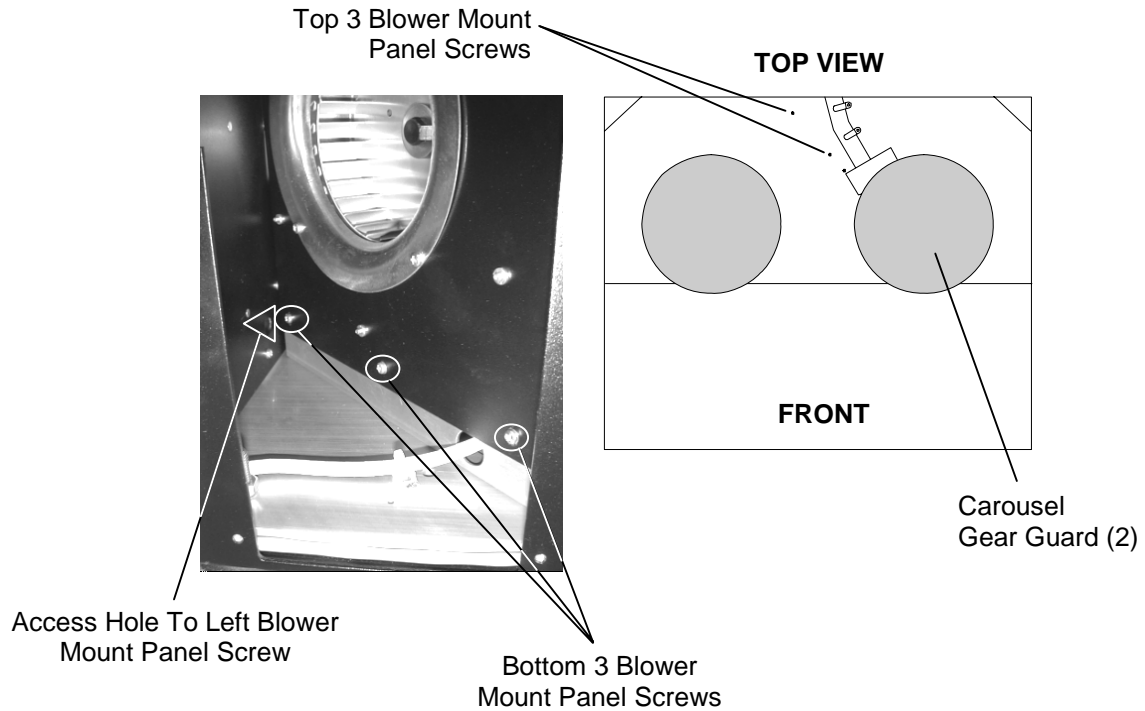

Figure 7-22 Blower Mount Panel Screw Locations
10. Remove the three screws from the bottom of the Blower Mount Panel using Stubby/Short and regular length number 2 Phillips screwdrivers. The screw on the left side can be accessed by reaching into the right side drive access opening and using the screw access hole in the metal wall. See Figure 7-22.
11. Reach into the library through the cabinet door and remove the three top Blower Mount Panel screws using a number 1 Phillips screwdriver. See Figure 7-22 for the screw locations.
6. Carefully position the Blower Assembly and the attached Blower Mount Panel so that the three screw holes on the bottom of the Blower Mount Panel are aligned with their corresponding holes in the library. See Figure 7-22.
9. Reach into the library through the cabinet door and replace the three top Blower Mount Panel screws using a number 1 Phillips screwdriver. See Figure 7-22.